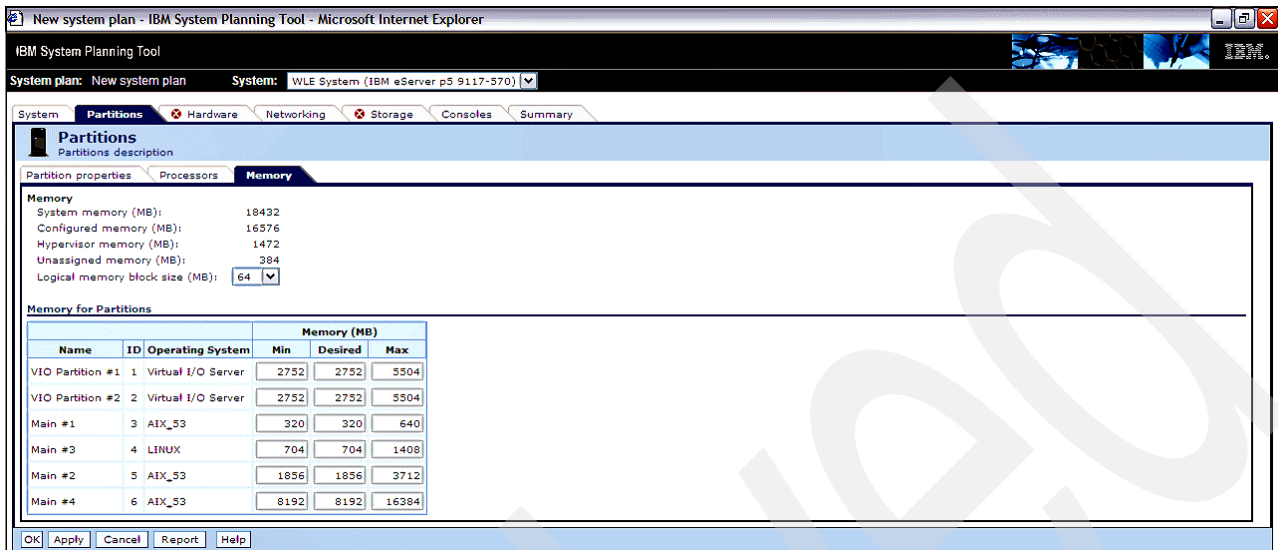

Figure 5-38 Memory definition
18. Click the **Memory** tab to see the memory allocation set by WLE. Figure 5-38 shows the allocation by partition. These allocations can be changed if you determine that allocations should be changed or you want more memory added to the system.